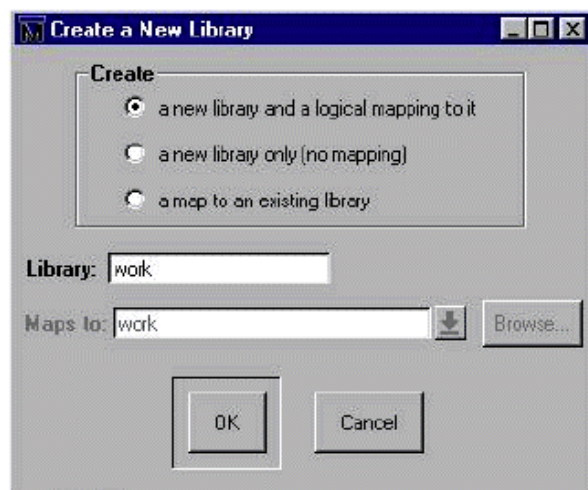

Figure 3: Create a New Library Dialog
3. Figure 3: Create a New Library Dialog